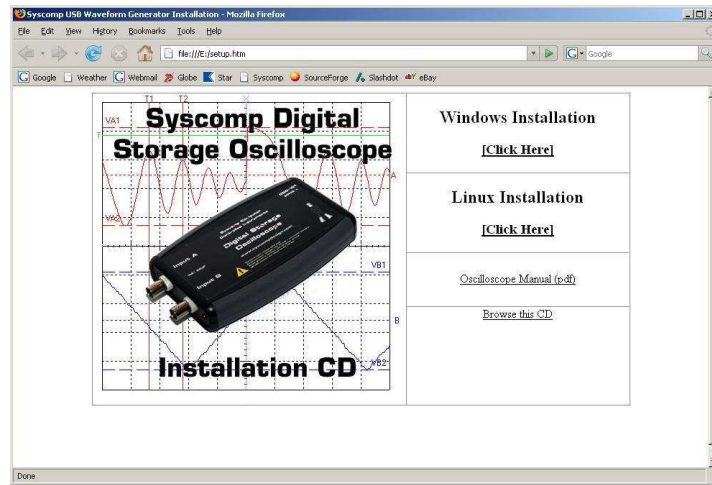
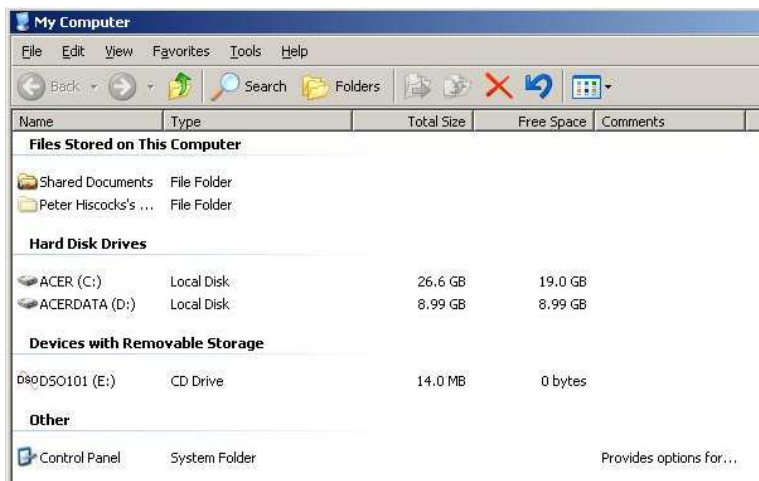
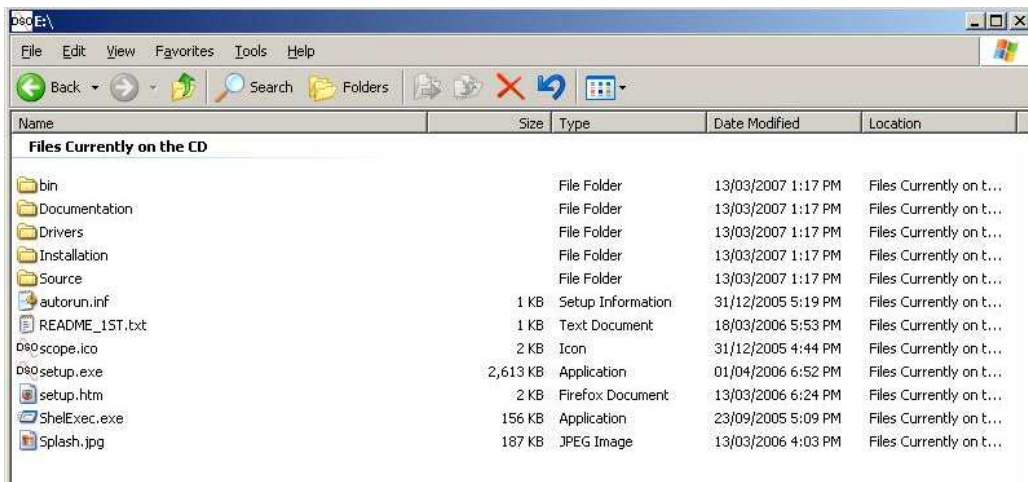

Figure 29: Install Screen
Figure 30: My Computer
Figure 31: CD Directory
Start up your web browser and double-click on File -> Open File... Move to the CD drive and open it. You should see a listing like figure 31.
2. Double click on setup.exe (figure 31) to run it.
- Insert the CD into the CD drive. This should start up the installation procedure by showing the screen of figure 29.
- If that doesn't happen, double click on `My Computer` and you should see the installation CD listed under `Devices with Removeable Storage` (figure 30). Double click on the installation CD entry, and the screen of figure 29 should appear.
- If that still doesn't happen, right click on the installation CD entry of figure 30. This should bring up a directory listing of the installation CD, somewhat like figure 31. Double-click on `setup.htm`. This should bring up the install screen of figure 29.
- If that fails, start up your web browser and double-click on `File -> Open File...` Move to the CD drive and open it. You should see a listing like figure 31. Double-click on `setup.htm`. This should bring up the install screen of figure 29.
1. We assume that the installation screen, figure 29, is showing.